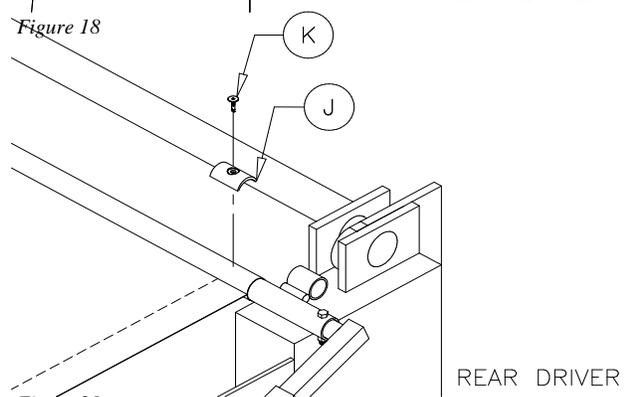

Figure 20
Center the rear tarp pocket on the rear pivot arm crossmember (F). Position a pvc rear tarp clamp (J) on both edges of the tarp material. Fasten both tarp clamps to the tarp and rear pivot arm crossmember (F) with the #10-24x3-4 wafer head screws (K) provided (see Figure 20).